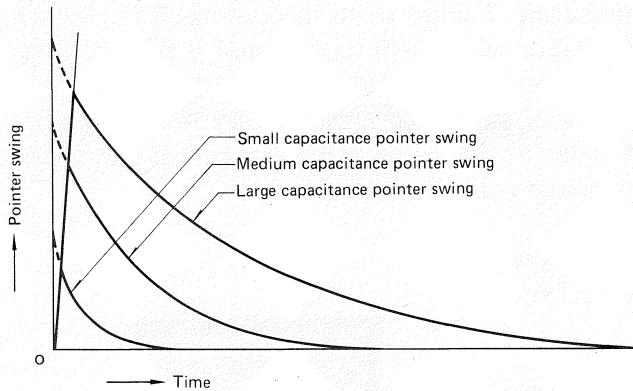
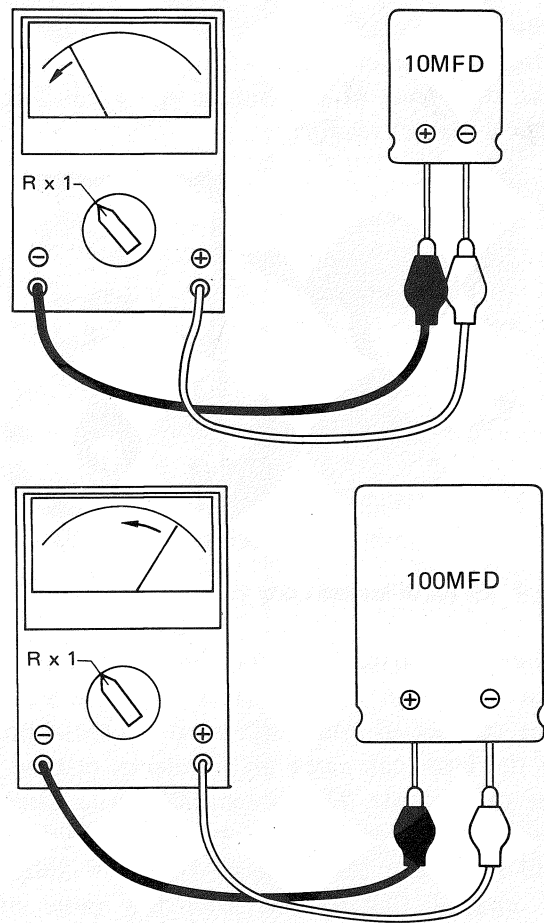

Fig. 4 Relationship between the pointer swing and capacitance
Fig. 5 Capacitance check
An open capacitor can easily be checked by charging up the suspected capacitor with the measurement current of the multimeter, and then reading the charging characteristics of the capacitor (how much the pointer swings). To do this, connect the test leads of the meter to the terminals of the capacitor, as shown in Fig. 5. The measurement current will flow into the capacitor and gradually charge it up. As this happens, the pointer should swing toward the low resistance end of the scale, and then swing back toward  $\infty$  as charging is completed. The farther the pointer swings toward the low-resistance end of the scale the greater the capacitance and the longer the required time for the pointer to swing back to  $\infty$ . In a very large capacitor (more than  $1000\mu\text{F}$ ), there is insufficient measuring current to charge up and the pointer merely returns to  $\infty$ . The pointer swing and capacitance value relationship is shown in Fig. 4. If the pointer doesn't deflect at all, you can assume that the capacitor is open.
- Electrolytic capacitors are marked for polarity, and care must be taken to see that it matches the electrical polarity of the multimeter (see Fig. 5).